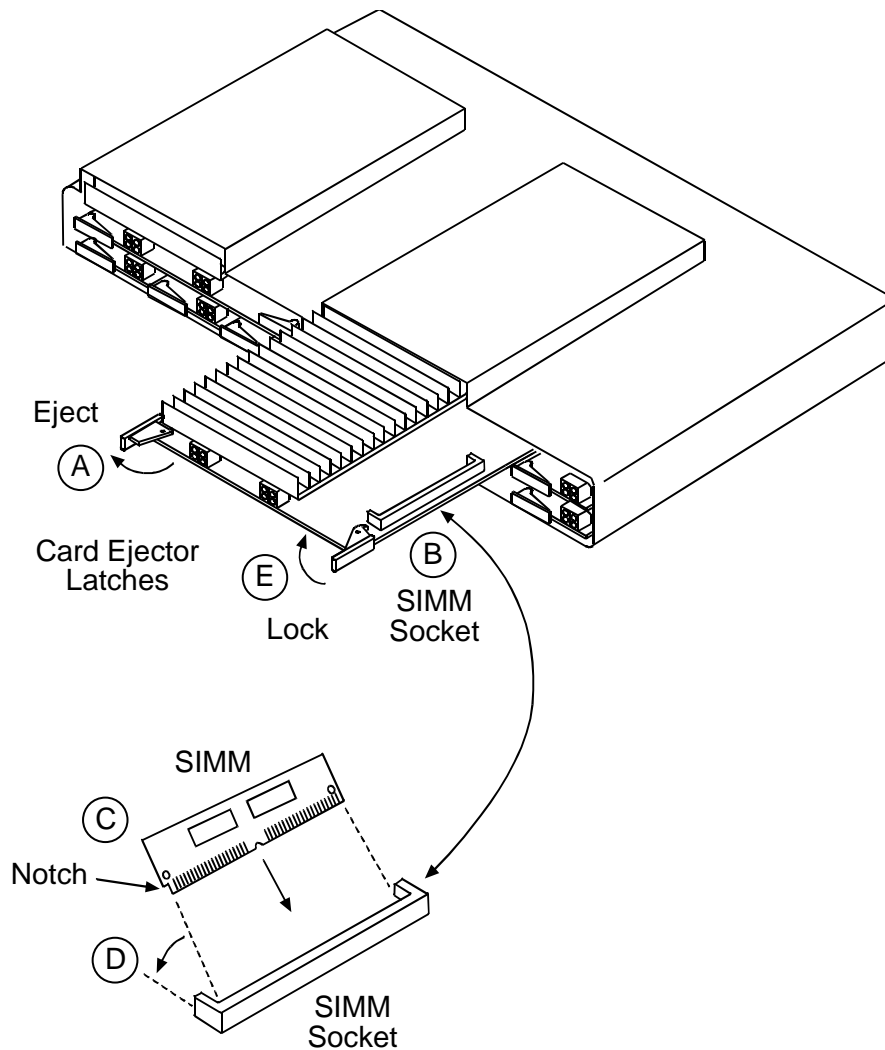

Figure 16-16. Installing Controller Card SIMM
NOTE: The example in Figure 16-16 shows installation and removal of Controller B.
2. Push both card ejector latches on standby Controller toward outside of card until card connector releases with backplane connector (see A in Figure 16-16).
3. Slide standby Controller partially out of card slot to expose SIMM socket (see B in Figure 16-16).
5. Hold SIMM at about a 45 degree angle with notch positioned at front of socket (see C in Figure 16-16) and insert connector edge of SIMM into socket.
6. Push SIMM down toward circuit board until it snaps into socket clamps (see D in Figure 16-16).
8. Press card ejector latches in toward center of card until card connector mates with backplane connector (see E in Figure 16-16).